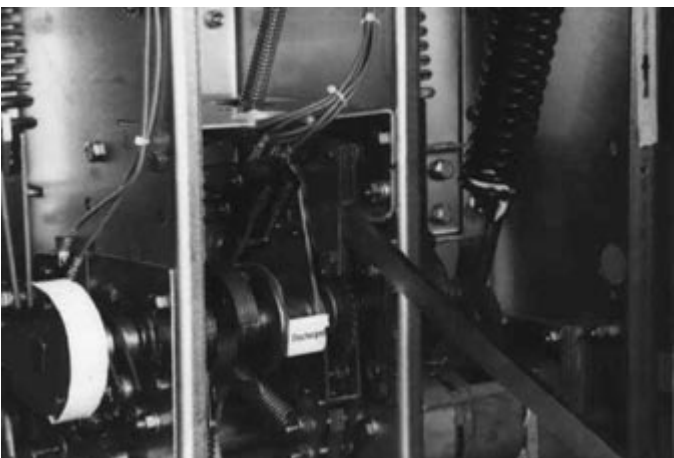

Figure 6-11 Manually Charging Closing Springs
Step 7 - Charge the closing springs with the maintenance tool. Continue charging the closing springs until a "click" is heard and the status indicator shows "Charged" (Figure 6-11).